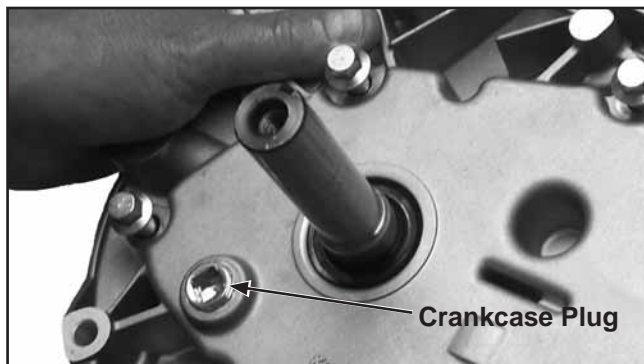

Figure 16. Crankcase Plug.
2. Remove crankcase plug on bottom of engine and drain oil into approved container. See Figure 16.